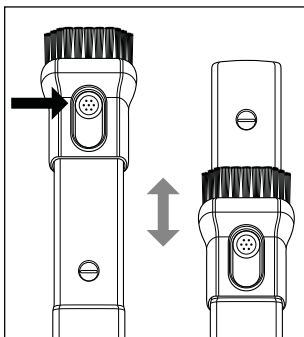

Fig. 3
- ◆ To adjust the 2-in-1 suction nozzle 12, hold down the button on the brush nozzle. Slide the brush nozzle forward if you want to use the brush nozzle. Slide the brush nozzle backward if you want to use the crevice tool (see Fig. 3).